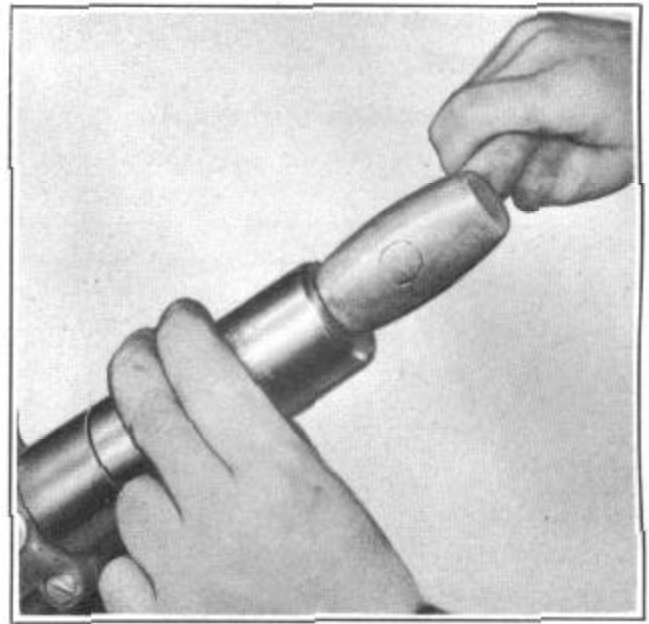

FIGURE 4
2. Using Replacer tool 1-2952, Figure 4, drive bearing to a depth of $3\frac{1}{32}$ " on cars without direction indicator. If car is equipped with direction indicator, drive bearing to a depth of $1\frac{11}{32}$ " from top of tube.